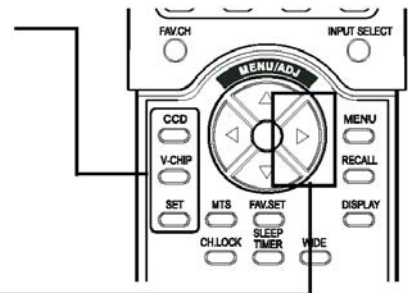

Figure 1
- The first menu in Figure 1 is displayed. Press the Menu/ADJ key to toggle between ON or OFF. To turn on parental guide, highlight to ON.